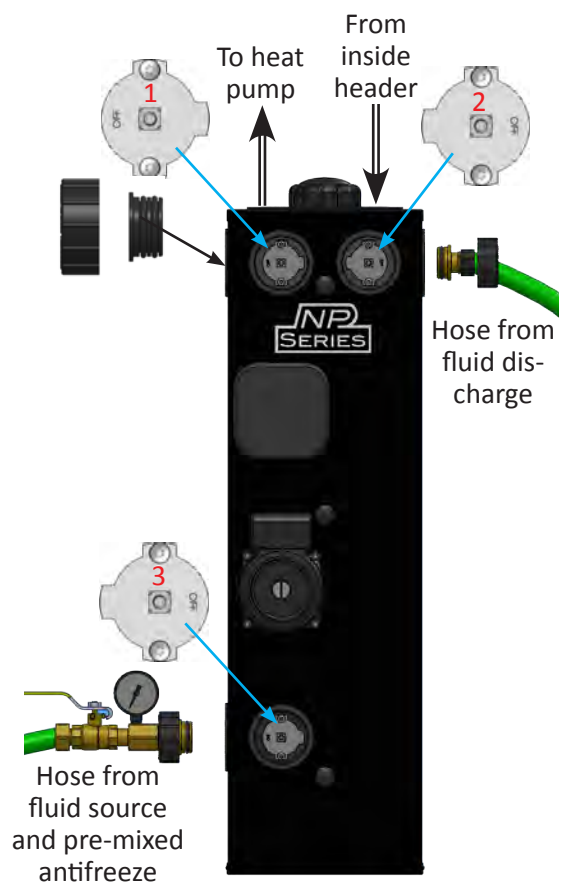

Figure 15: Flushing with inside header
3. Cap the unused port on discharge side of the flow center with a double O-ring plug seal and cap (Figure 15). This will prevent accidental discharge through the valve during the flushing process.
4. Attach a Geo-Gooser tool with garden hose adapter to valve #3 on the flow center and a discharge hose to valve #2 as shown in Figure 15. The supply end of the hose should be connected to a clean water supply source, or to a transfer pump and pre-mixed antifreeze source.
5. Rotate OFF on valve #3 to the 3-o'clock position to allow the tank to be filled with fluid (Figure 15). Open the fluid supply and Gooser ball valve to allow the tank to fill. Once the tank is full, close the Gooser ball valve.